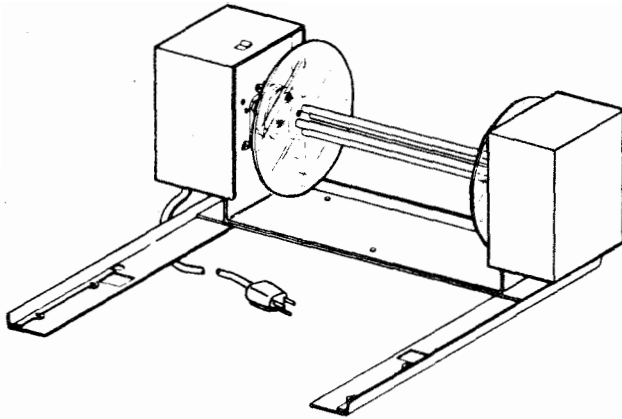
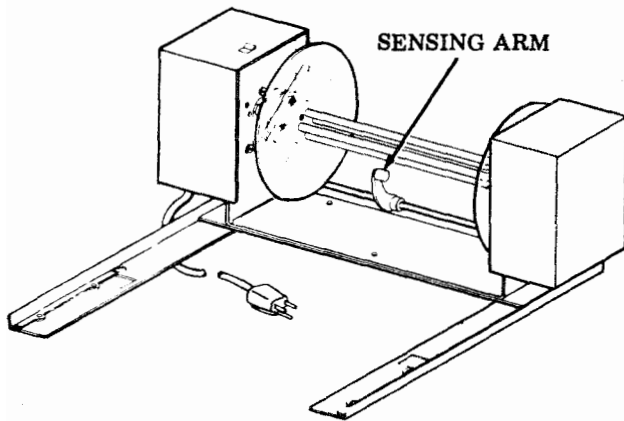

Fig. 1—40PWU101 Paper Winder (Early Design)
Fig. 2—40PWU101 (Late Design) or 40PWU102 Paper Winders
1.02 The 40PWU101 paper winder (Fig. 1—early design or Fig. 2—late design or 40PWU102) is a self-contained unit. It is operable with a friction feed printer operating at a line feed rate of 5.2 lines per second or less, and is recommended for single-copy paper only.